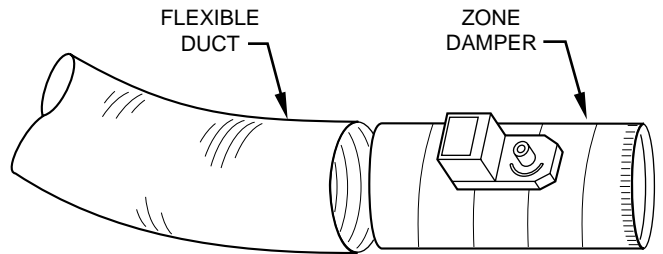

Fig 4—Round Flexible Duct Work
1. Slip 1 end of flexible duct work over 1 end of zone damper. (See Fig. 4.)